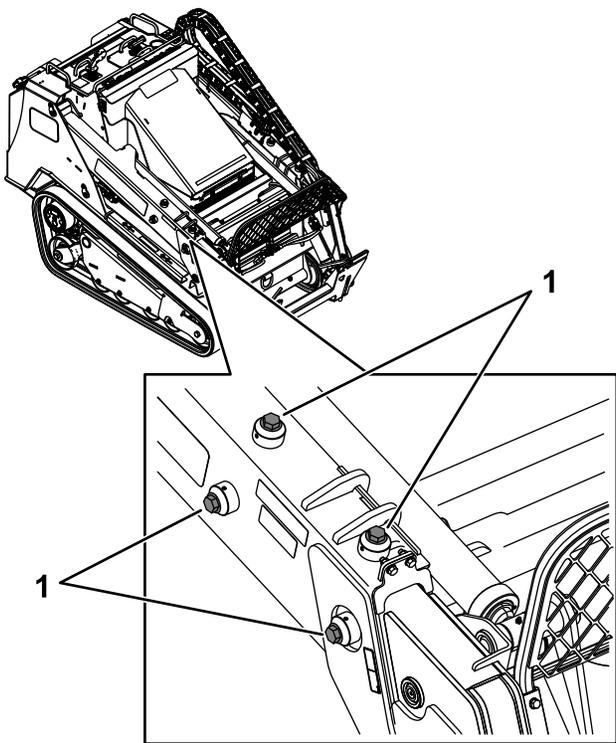

Figure 84
3. On each loader arm, loosen the setscrew on the 4 adjustment screws (Figure 84).